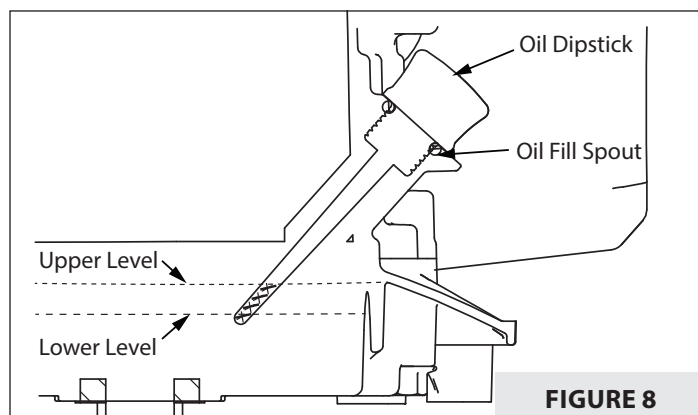

FIGURE 8
3. Tip engine back onto a level surface and fill with appropriate oil to the top of the marking on the dipstick (**SEE FIGURE 8**). **DO NOT OVERFILL.** For proper oil capacity, see the engine manufacturer’s instructions.
4. Reinsert dipstick and tighten. **SEE FIGURE 8.**